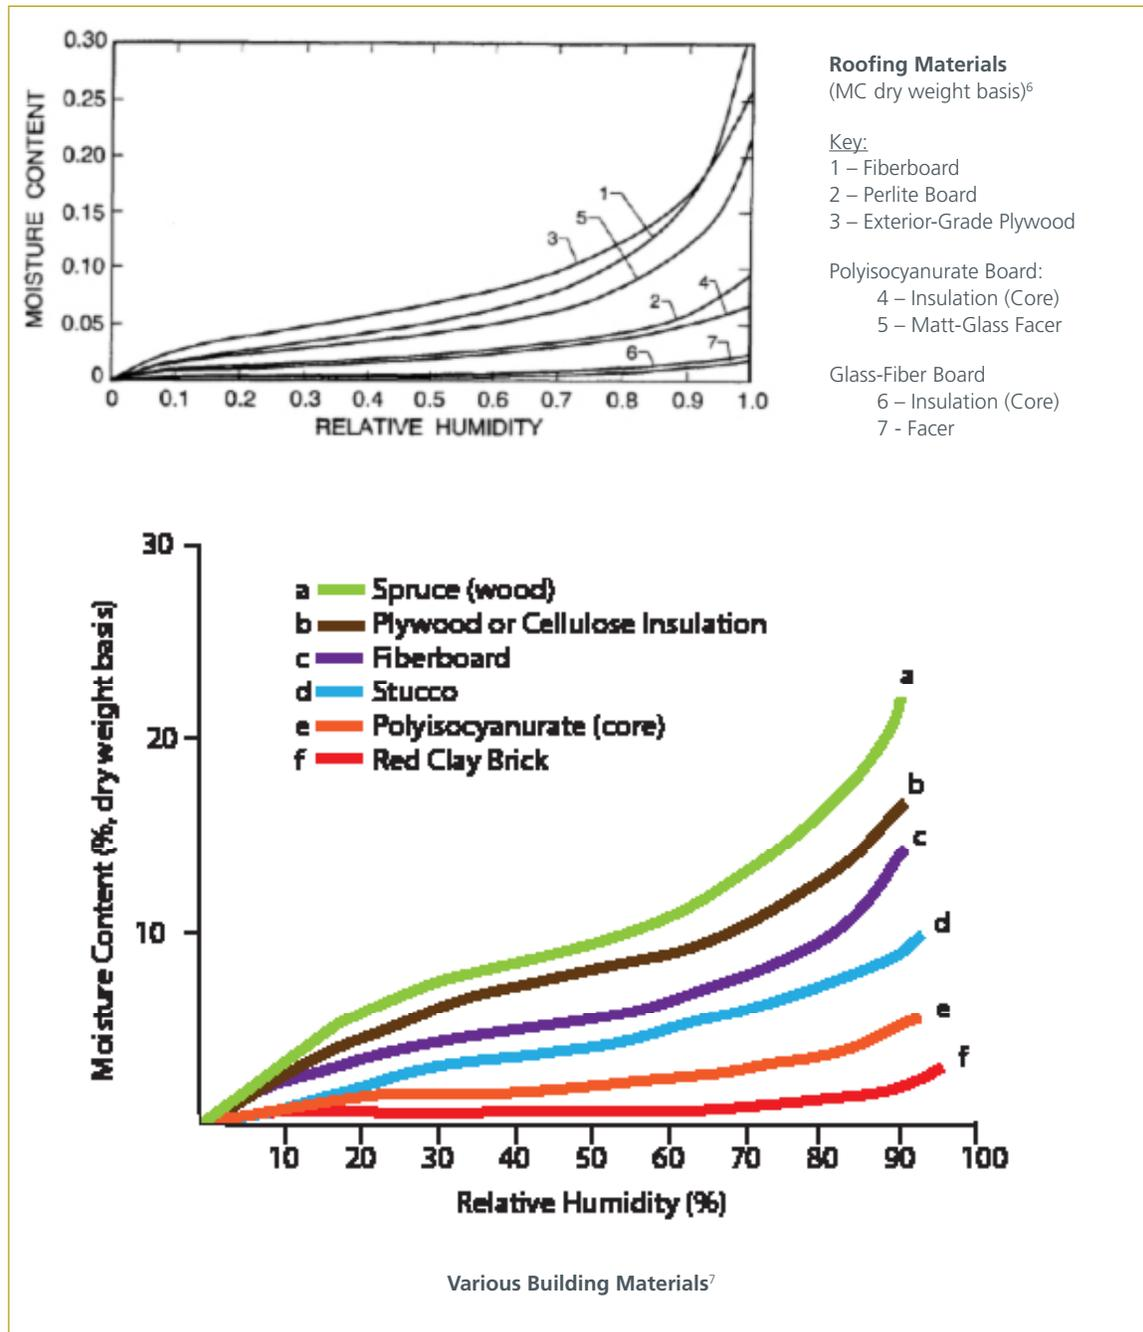

Figure 2. Example of hygroscopic adsorption isotherms for common building materials.
The second process of a material’s interaction with moisture is “hygroscopic” which, as mentioned, deals with the fixation of water molecules on the internal pore surfaces of materials. **Adsorption** is the intake of water in the hygroscopic range and **desorption** is the release of moisture in the hygroscopic range. This process is shown in hygroscopic adsorption isotherms of Figure 2 for a variety of building materials. Hygroscopic sorption isotherms are measured in accordance with ASTM C1498⁵. A hygroscopic moisture isotherm is a plotted curve representing the equilibrium
In Chart (1) of Figure 2 above, it is observed that polyiso insulation (material #4) is a moderately sorptive or hydrophilic material in comparison to the other common building materials. It is also interesting that at the 100% relative humidity exposure level, the moisture content (dry weight basis) maximized at 0.06 (or 6%). Using the conversion to a volumetric moisture content basis, the value is $0.06 \times (2.1/62.4) = 0.002$ or 0.2% moisture content. This is a relatively small amount of moisture intake under severe relative humidity conditions. It is about 1/10th the amount of moisture intake permissible under standardized water immersion testing addressed next. According to the scientific literature*, this amount of moisture intake under sustained severe humidity conditions has at most a ~10% impact on thermal performance.